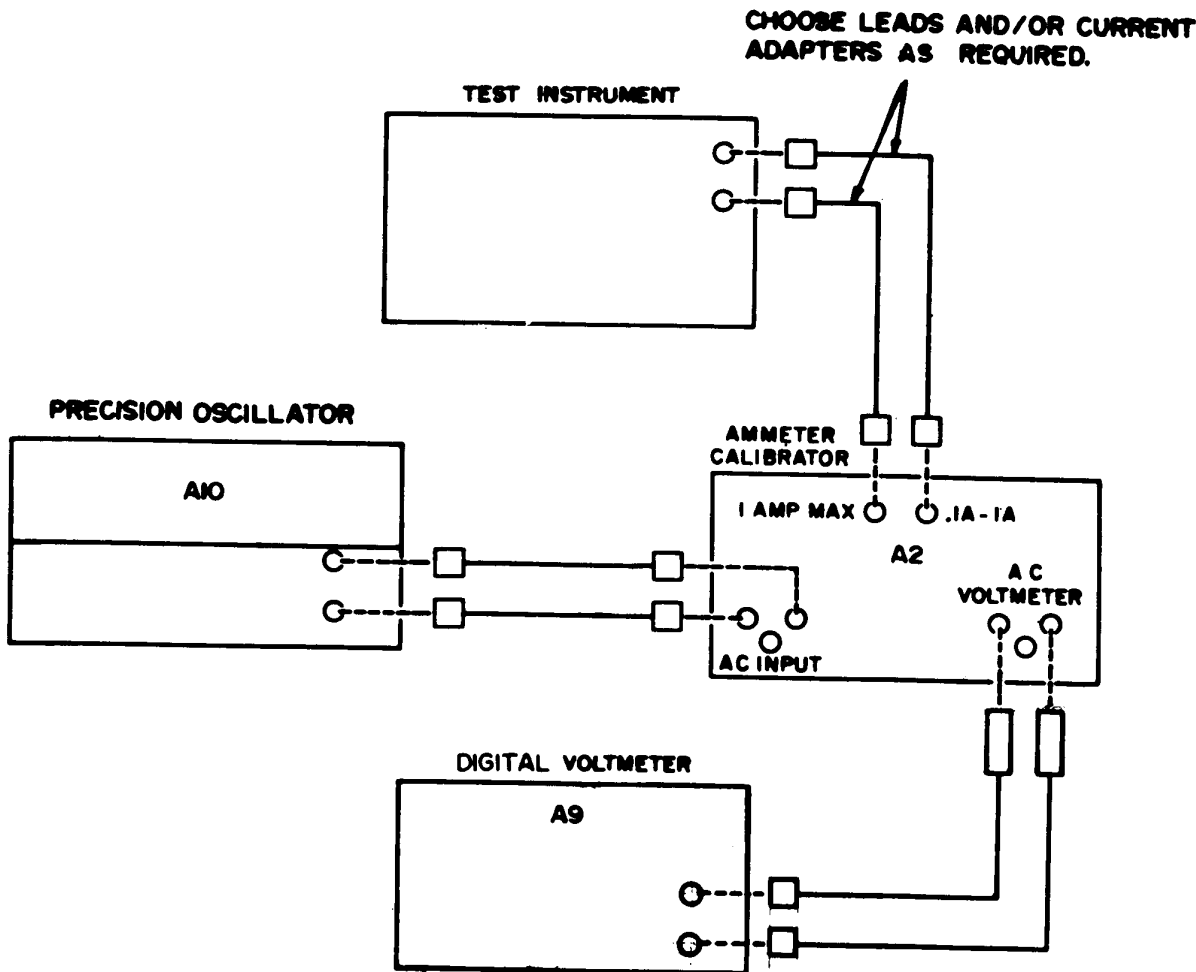

Figure 2. Ac current - equipment setup.
(1) Set TI function switch (if applicable) to ac current and set range switch to lowest range.
(2) Connect equipment as shown in figure 2.
(3) Adjust precision oscillator (A10) frequency for 60 Hz and voltage output as required to obtain full-scale indication on TI. Digital voltmeter (A9) will indicate within limits specified under accuracy in table 6 for TI being calibrated.
(4) Repeat (3) above at low (50 Hz) and high (as Applicable) (1000 Hz maximum) frequency listed for TI.
(5) Repeat technique of (1), (3), and (4) above for remaining ranges.